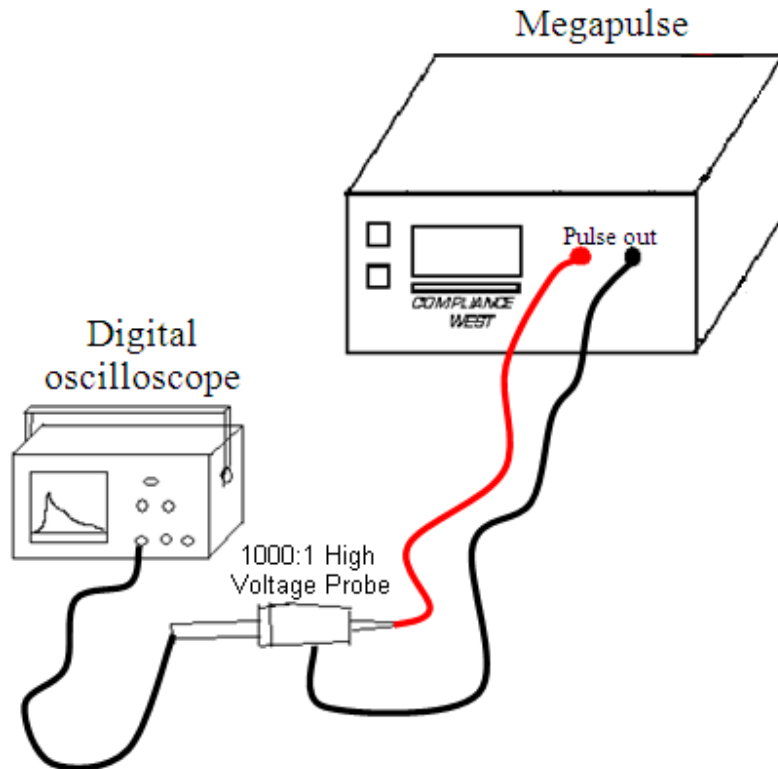

Figure 3: Waveform Measurement Setup
3. Connect the ends of the test leads to an appropriate measuring instrument (typically an oscilloscope with a high-voltage probe). Note that the **RETURN** lead is referenced to the chassis ground of the tester. See Figure 3 as an example.